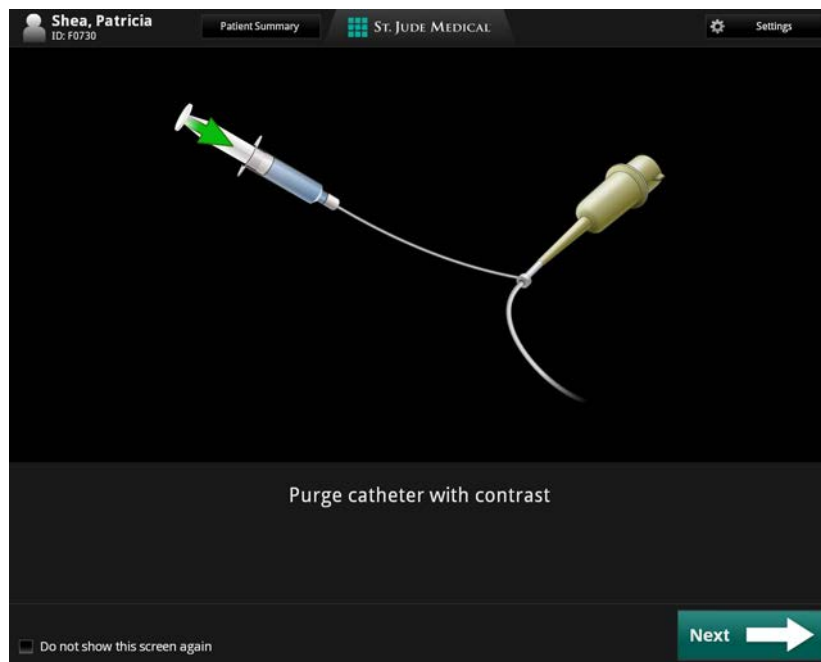

Figure 5-2: Purge Catheter guidance message
5. The screen displays the guidance message “Purge catheter with contrast” (Figure 5-2).